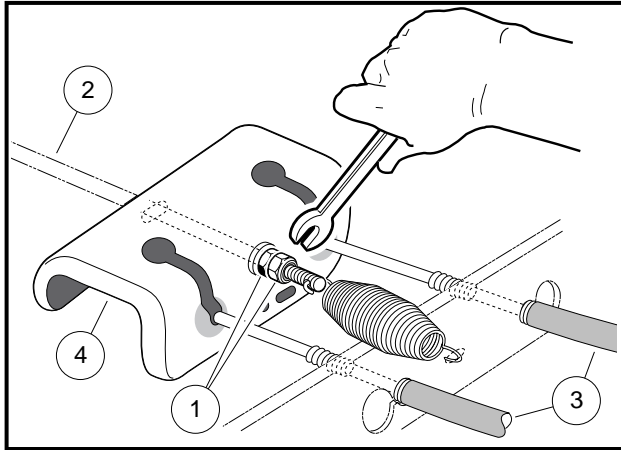

Figure 6-32 Loosen Equalizer Nut
2. Release parking brake if latched and loosen equalizer retaining nuts (1) on equalizer rod (2) to slightly loosen brake cables (3) (**Figure 6-32, Page 6-20**).
1. Place the cables ends in the equalizer (4) (**Figure 6-32, Page 6-20**). Route cables through hangers in the same manner as the ones removed.